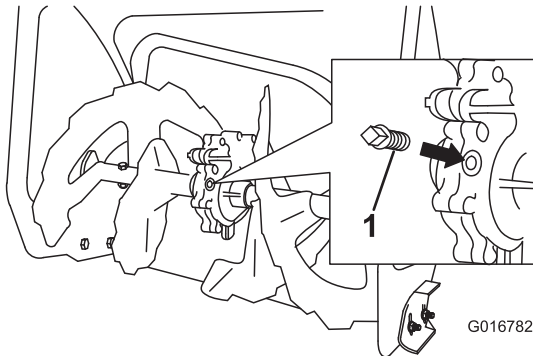

Figure 38
2. Clean the area around the pipe plug (Figure 38).